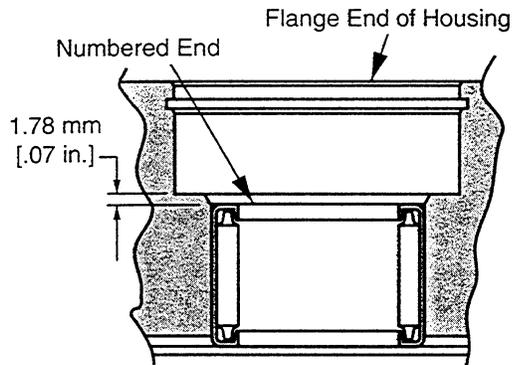

Figure 1-4
- Check the bearing (press fit) in housing. If needles remain in cage, move freely, and setting at the dimension shown in figure 1-4, removal not required.
- 2 If necessary, Press new bearing in housing to dimension shown in figure 1-4 with the numbered end of bearing outward.